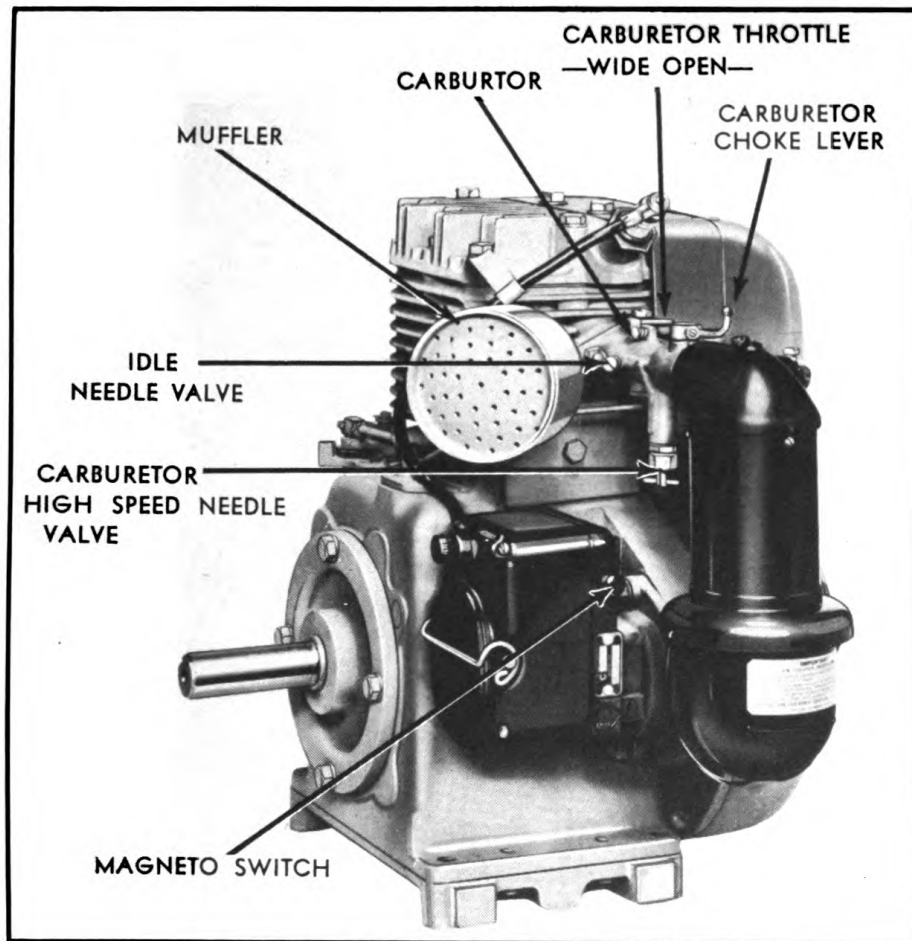

FIG. 41 Gasoline Engine—Side View
1. Carburetor (See Fig. 41)
2. Choke (See Fig. 41)